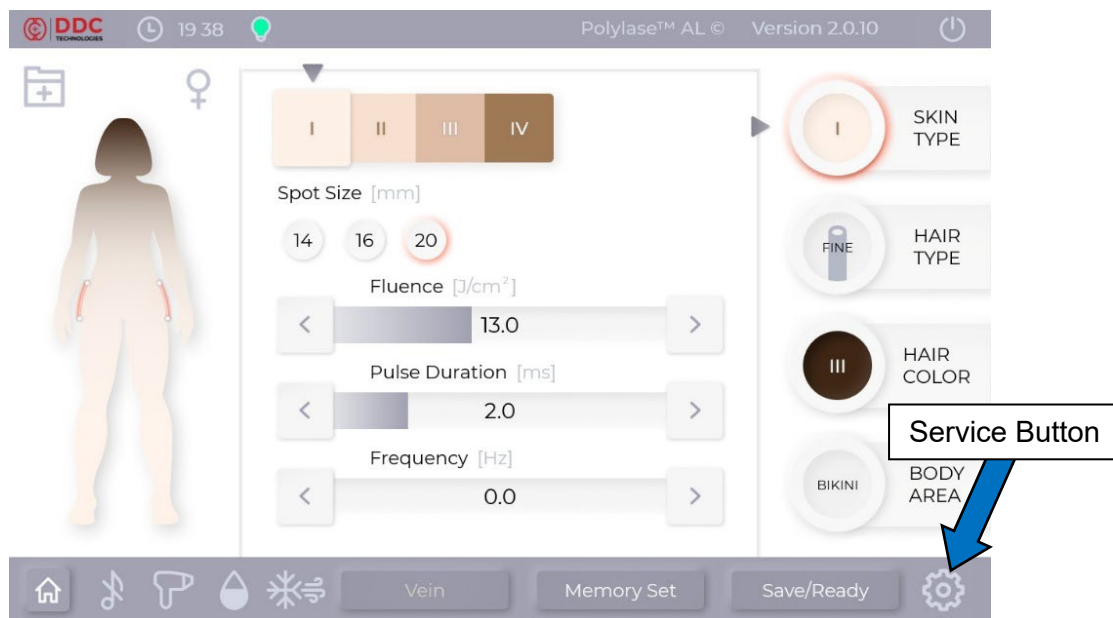

Figure 5-24. Service Button
7. From the Autocalibration screen (Figure 5-24), select “**Start Calibration**” and then press “**OK**” on the dialogue box warning about laser radiation danger (see also step 6 and make sure you comply with requirements), and then the Laser Output Autocalibration Procedure will begin.